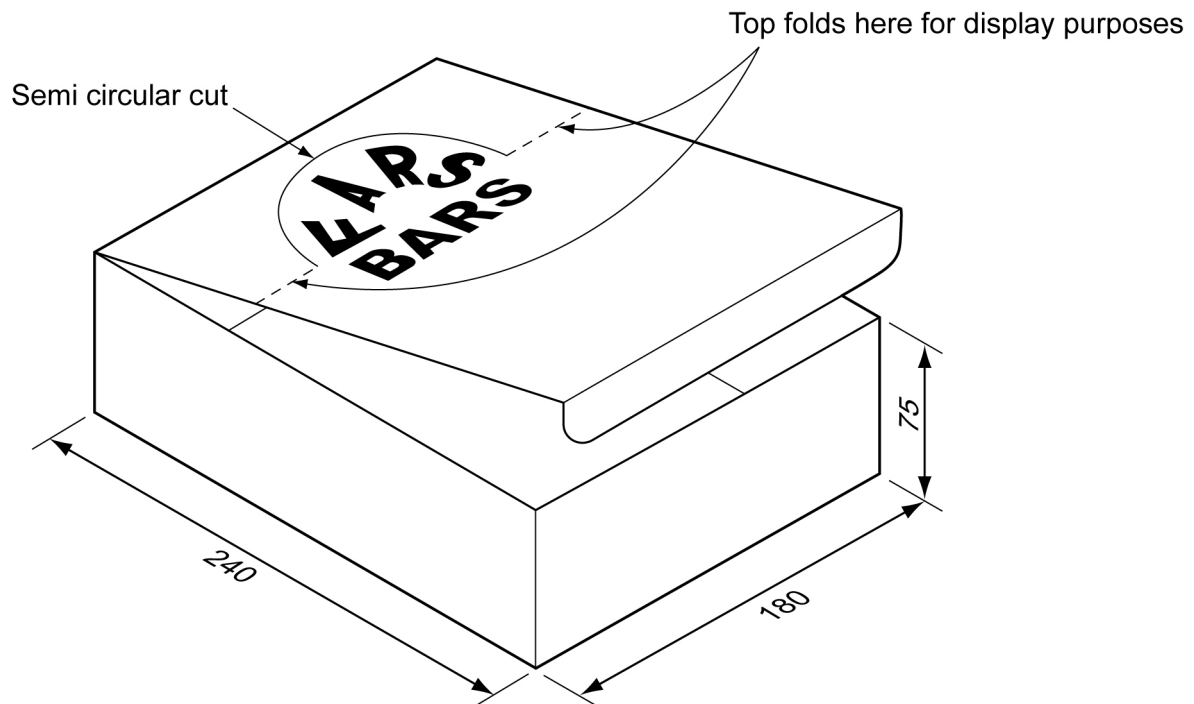

Fig. 3
- 3 Fig. 3 shows a point of sale display box to hold chocolate bars. The top can be folded open to display the chocolate bars. The box is to be made from one piece of card in a school workshop.